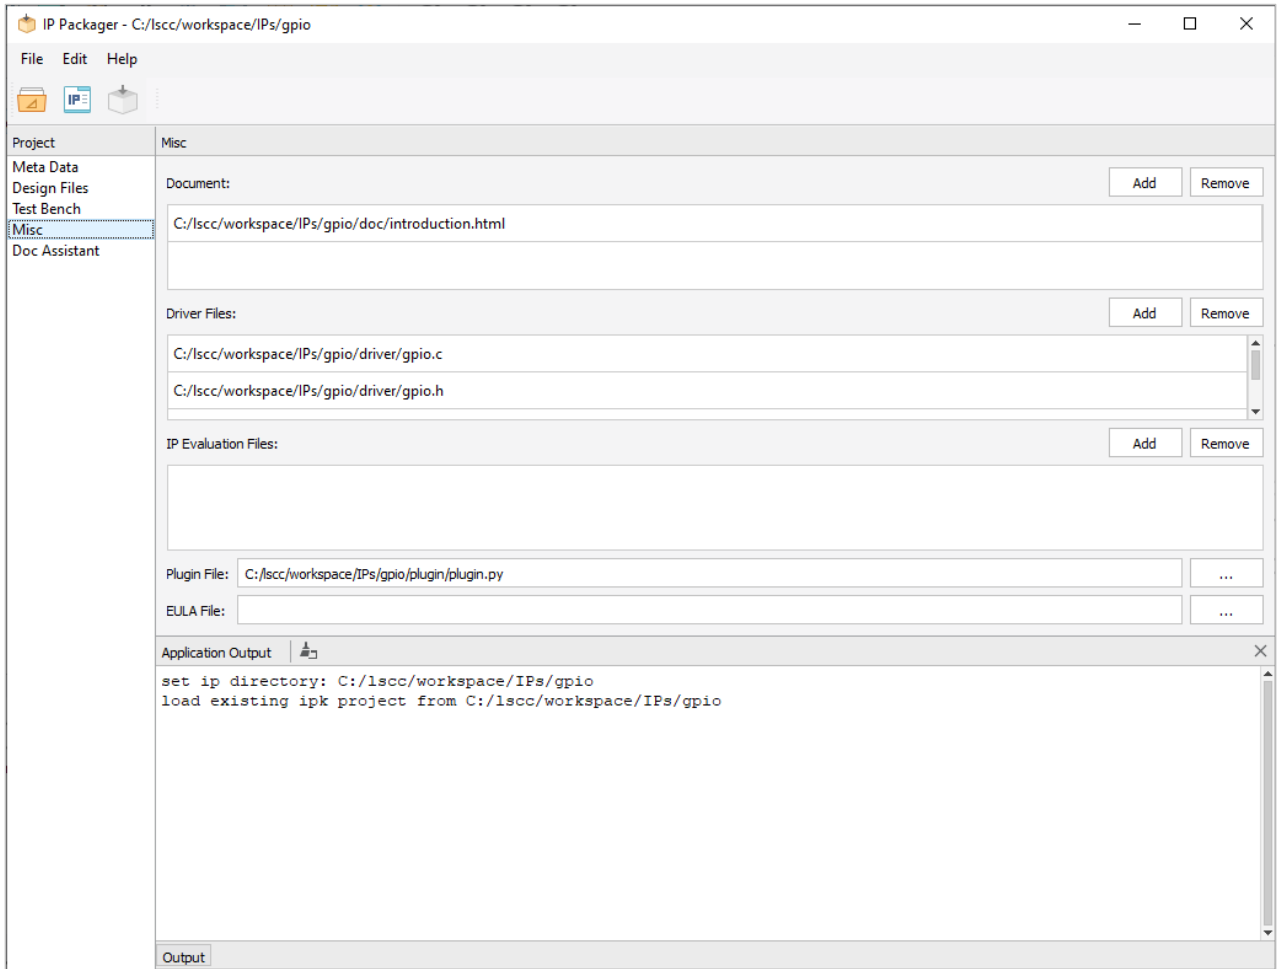

Figure 3.30. IP Packager with Misc Details
- From the IP Packager Project area, click **Misc**. The Misc related information is shown in detail (Figure 3.30). Configure Misc information as desired.